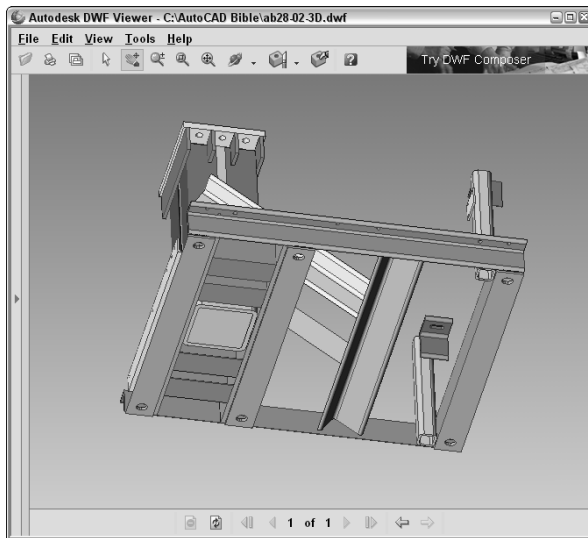

**Figure 28-14:** You can use the Orbit option to tumble a 3D DWF in any direction.
- ♦ For 3D DWFs only, the Orbit option functions somewhat like the 3D Orbit feature. (See Chapter 22 for an explanation of 3D Orbit.) Drag to tumble the model in any direction, as shown in Figure 28-14. Press Ctrl as you drag to constrain the tumbling to the vertical direction. Press Shift as you drag to tumble only horizontally. Press Ctrl and Shift together as you drag to constrain the view to rolling.